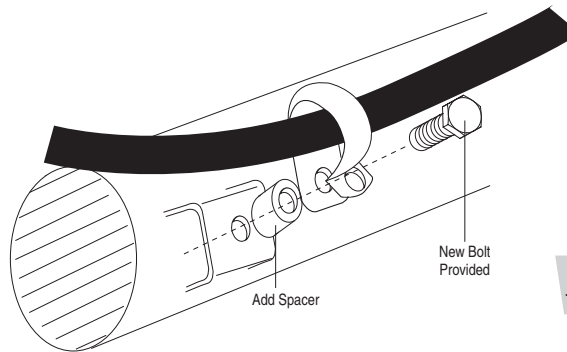

fig. 3
7. Models with disc brakes, make sure that the emergency brake cable is above the upper bracket on the driver’s side. Also, remove the bolt holding the cable onto the back-side of the passenger’s side axle. Install the supplied spacer between the bracket and the emergency brake cable clip. Insert the supplied bolt and tighten the cable down securely (Figure 3).